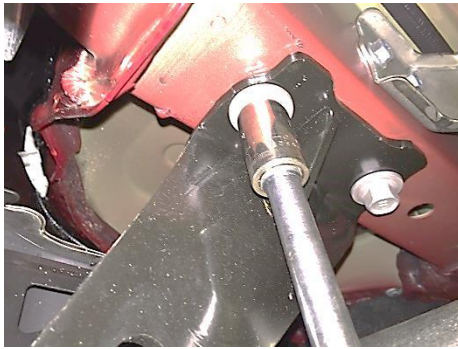

Figure 2
1. Use 17 mm socket to remove (2) bolts from tie down bracket on passenger side, see Figure 2. Return tie down bracket to vehicle owner.
Use 17 mm socket to remove (2) bolts from tie down bracket on passenger side, see Figure 2. Return tie down bracket to vehicle owner.